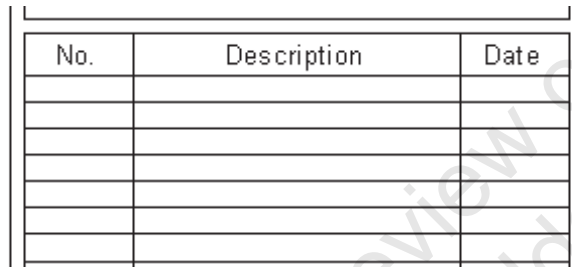

Figure 1–84
- While placing the label, you can rotate or stretch it (as shown in Figure 1–84), or select a point for an additional label.